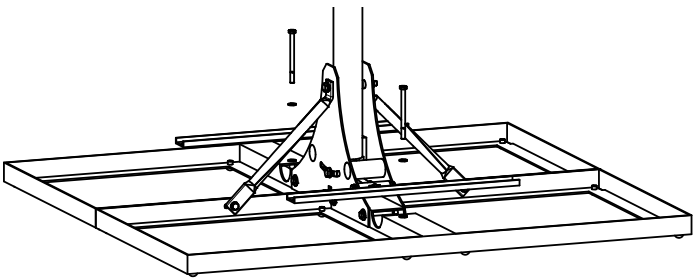

Fig. 8: Attaching the rails for securing the concrete slabs
8. Fix the two rails to secure the concrete slabs on both sides, depending on the height of the concrete slab using the M8 x 50 or M8 x 100 screws (Fig. 8).